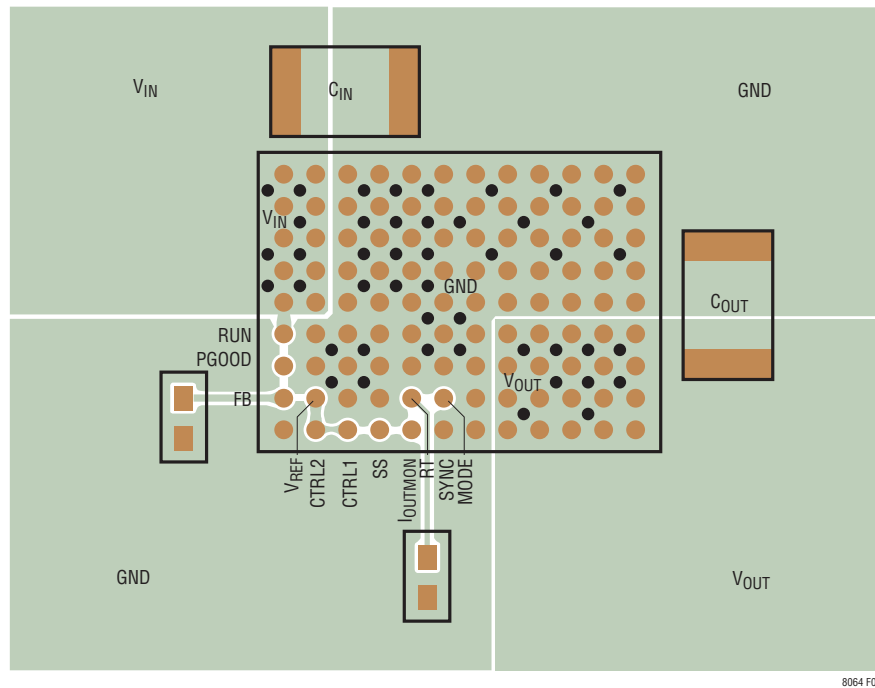

Figure 7. Layout Showing Suggested External Components, GND Plane and Thermal Vias
Most of the difficulties associated with PCB layout have been alleviated or even eliminated by the high level of integration of the LTM8064. The LTM8064 is nevertheless a switching power supply, and care must be taken to minimize EMI and ensure proper operation. Even with the high level of integration, you may fail to achieve specified operation with a haphazard or poor layout. See Figure 7 for a suggested layout. Ensure that the grounding and heat sinking are acceptable.
6. Use vias to connect the GND copper area to the board's internal ground planes. Liberally distribute these GND vias to provide both a good ground connection and thermal path to the internal planes of the printed circuit board. Pay attention to the location and density of the thermal vias in Figure 7. The LTM8064 can benefit from the heat sinking afforded by vias that connect to internal GND planes at these locations, due to their proximity to internal power handling components. The optimum number of thermal vias depends upon the printed circuit board design. For example, a board might use very small via holes. It should employ more thermal vias than a board that uses larger holes.